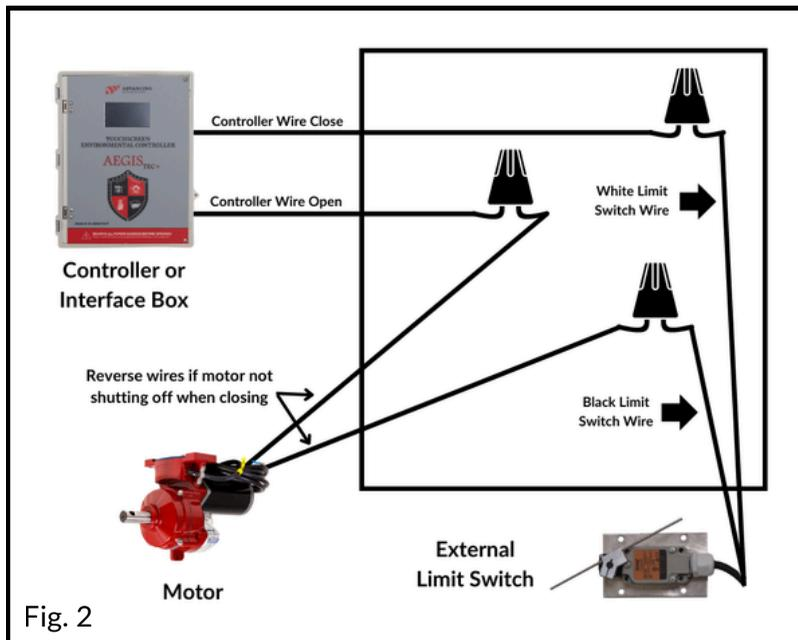

Fig. 2
2) The wire connections given in Figure 2 are a starting point and may need to be changed accordingly. The black wire from the limit switch connects to one motor wire. The white wire from the limit switch connects to the Controller CLOSE wire. The Controller OPEN wire connects to the other motor wire.